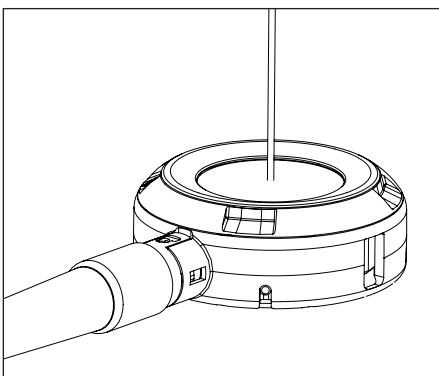

Figure 17. Needle and Access Port positioning
6. Position the needle perpendicularly to the septum of the Access Port (Figure 17).